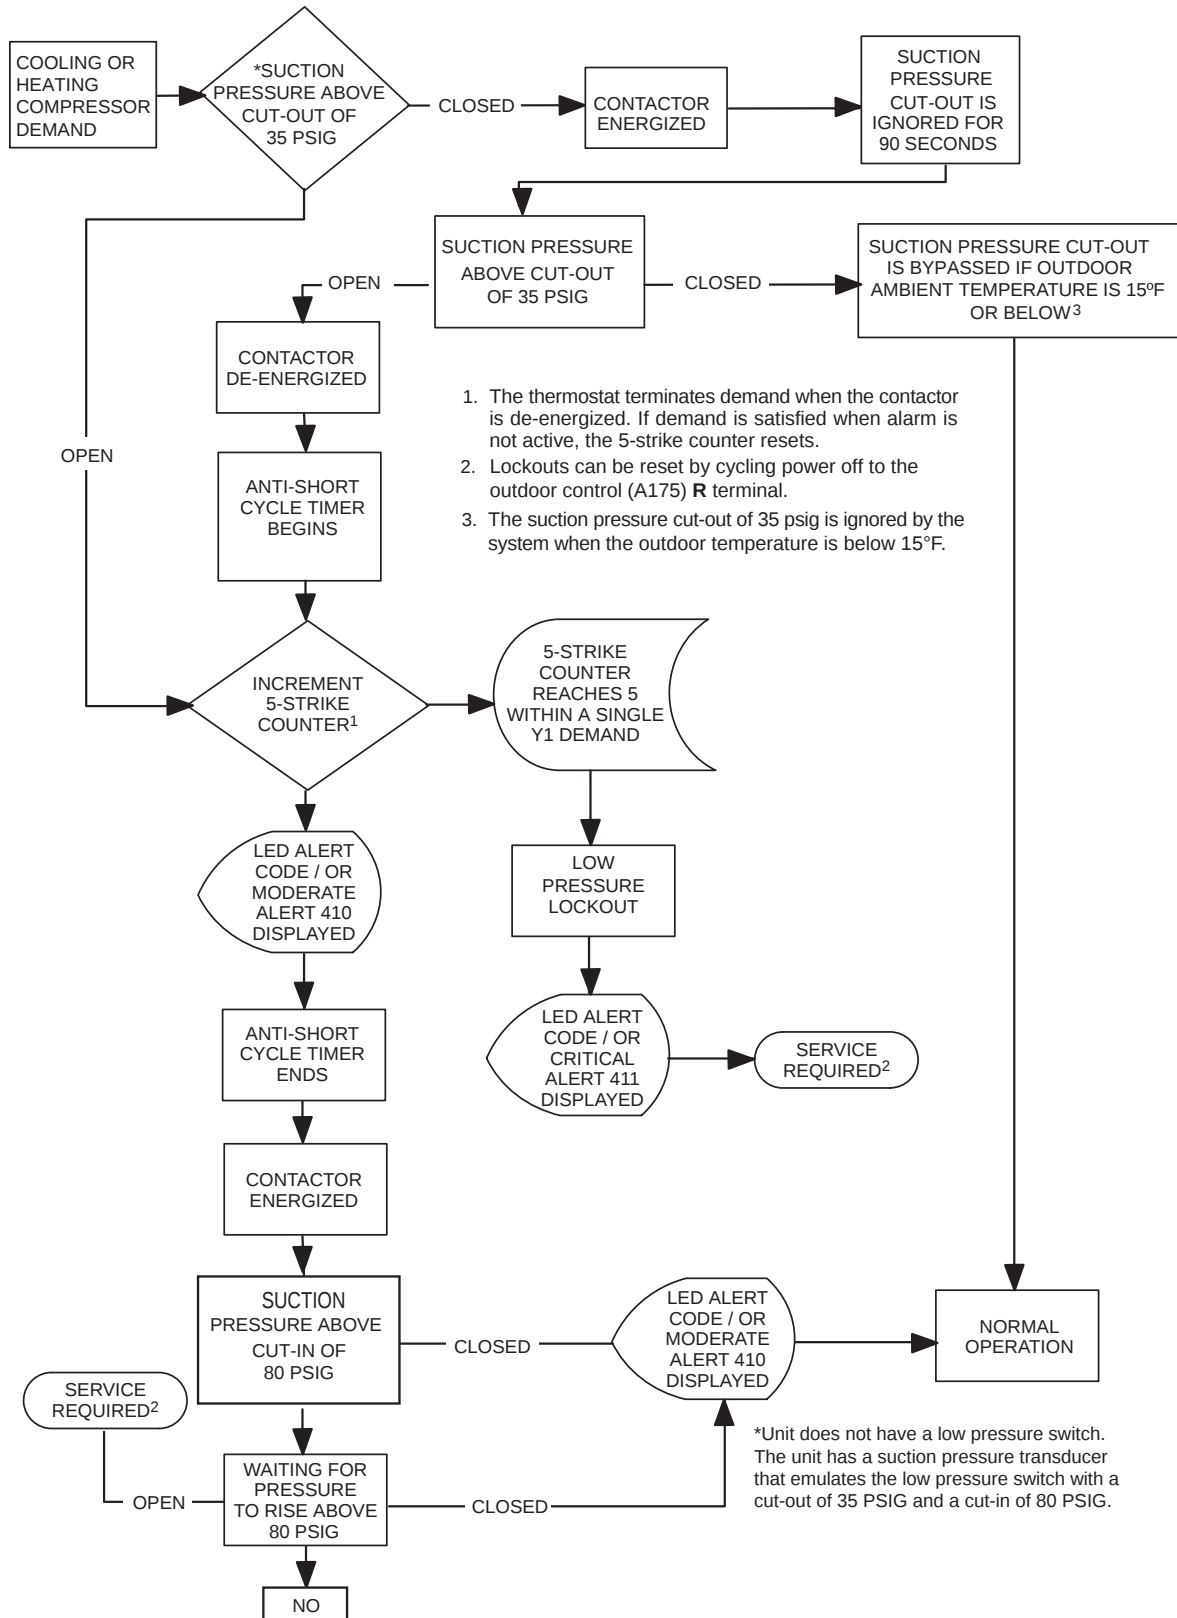

Figure 26. Low Pressure Switch Emulated by Suction Pressure Transducer
- **High Pressure Switch (HPS)** – See **Figure 26** for high pressure switch sequence of operation.